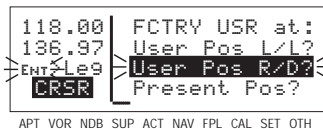

Figure 4-89
- Move the cursor down to the third line, over **User Pos R/D?** (figure 4-89).